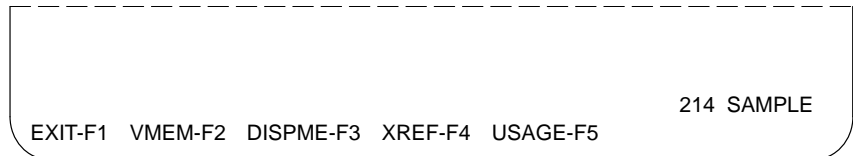

Figure C-5 Memory Function Keys
1. Press the SPACEBAR to display additional ladder display function keys. Press **MEMORY-F2**. You get a second function key menu, shown in Figure C-5.